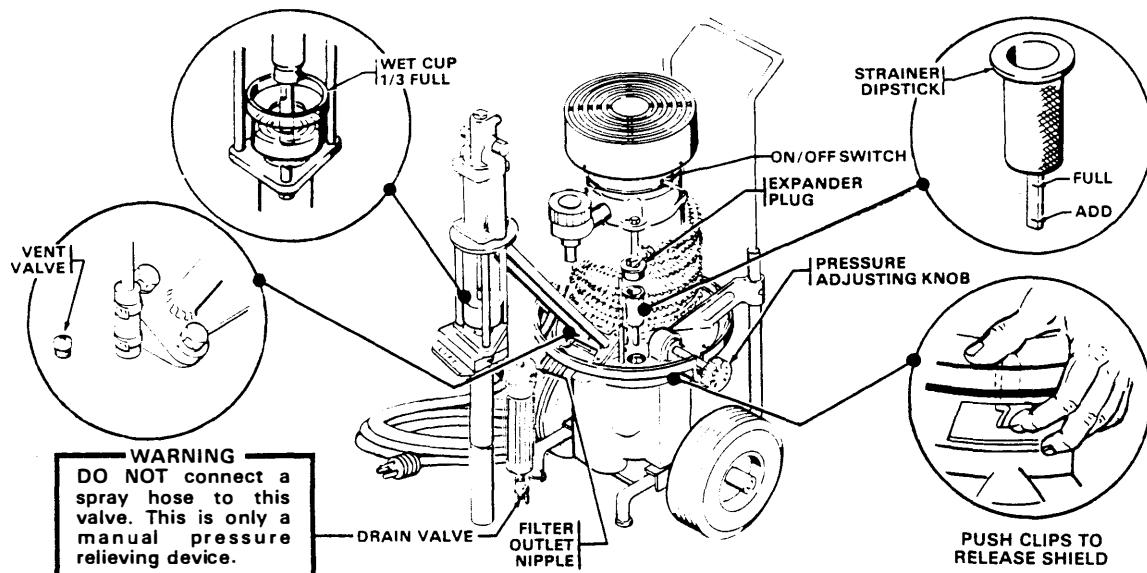

Fig 1
- Check Hydraulic Fluid** (Refer to Fig 1.)
- Connect Hose and Gun** (Refer to Fig 1.)
- Fill Packing Nut/Wet-Cup** (See Fig 1.)
- Be sure the ON/OFF switch is OFF. Refer to Fig 1. Then plug the cord into a grounded electrical outlet at least 20 ft (6 m) away from the spray area.
- d. Turn the pressure adjusting knob all the way counterclockwise to lower the pressure setting. Refer to Fig 1.